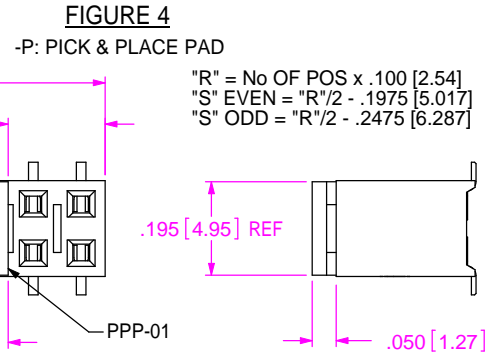

FIGURE 4
- P: PICK & PLACE PAD (SEE NOTE 5) (USE PPP-01, SEE FIG 4, SHT 2)